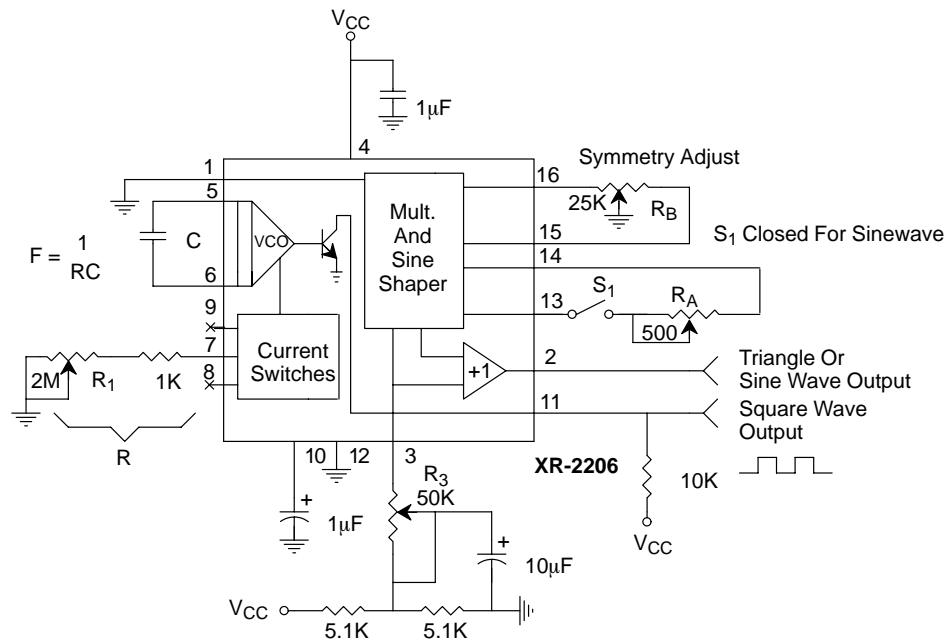
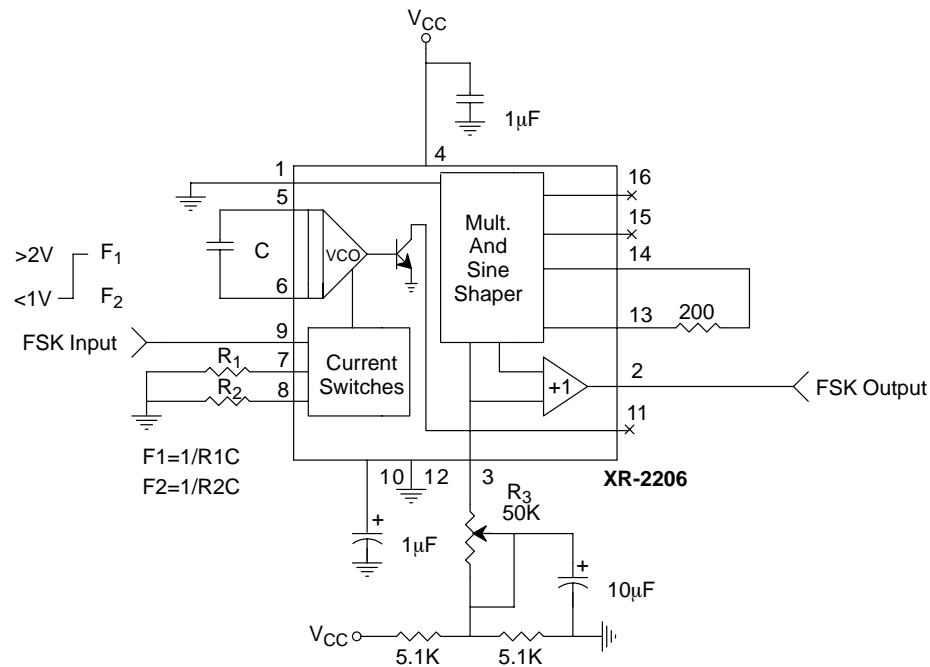

Figure 12. Circuit for Sine Wave Generation with Minimum Harmonic Distortion.
Figure 13. Sinusoidal FSK Generator
The XR-2206 can be operated with two separate timing resistors,  $R_1$  and  $R_2$ , connected to the timing Pin 7 and 8, respectively, as shown in Figure 13. Depending on the polarity of the logic signal at Pin 9, either one or the other of these timing resistors is activated. If Pin 9 is open-circuited or connected to a bias voltage  $\geq 2V$ , only  $R_1$  is activated. Similarly, if the voltage level at Pin 9 is  $\leq 1V$ , only  $R_2$  is activated. Thus, the output frequency can be keyed between two levels.  $f_1$  and  $f_2$ , as:
The dc level at the output (Pin 2) is approximately the same as the dc bias at Pin 3. In Figure 11, Figure 12 and Figure 13, Pin 3 is biased midway between  $V^+$  and ground, to give an output dc level of  $\approx V^+/2$ .
The harmonic content of sinusoidal output can be reduced to -0.5% by additional adjustments as shown in *Figure 12*. The potentiometer,  $R_A$ , adjusts the sine-shaping resistor, and  $R_B$  provides the fine adjustment for the waveform symmetry. The adjustment procedure is as follows:
The circuits of *Figure 11* and *Figure 12* can be converted to triangle wave generation, by simply open-circuiting Pin 13 and 14 (i.e.,  $S_1$  open). Amplitude of the triangle is approximately twice the sine wave output.
*Figure 13* shows the circuit connection for sinusoidal FSK signal operation. Mark and space frequencies can be independently adjusted by the choice of timing resistors,  $R_1$  and  $R_2$ ; the output is phase-continuous during transitions. The keying signal is applied to Pin 9. The circuit can be converted to split-supply operation by simply replacing ground with  $V^-$ .